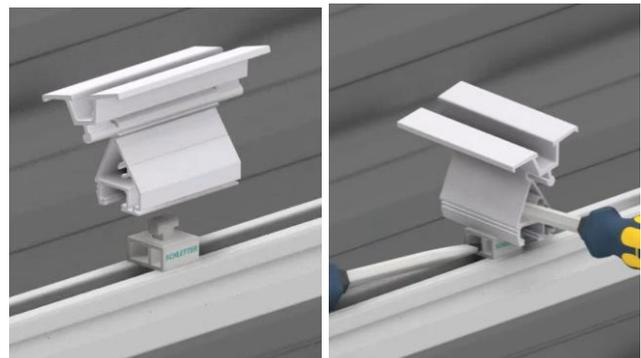

Figure 4.2C: Fixing Module Support to Rapid Con 90
- I. The Module Support Pro is placed on top of the Rapid Con 90 and turned 90 degrees to orient the base plate running perpendicular to the rails. This can be achieved with the help of 2 screwdrivers inserted into the hollow channels of the Rapid Con 90 and Module Support, as shown in Figure 4.2C.